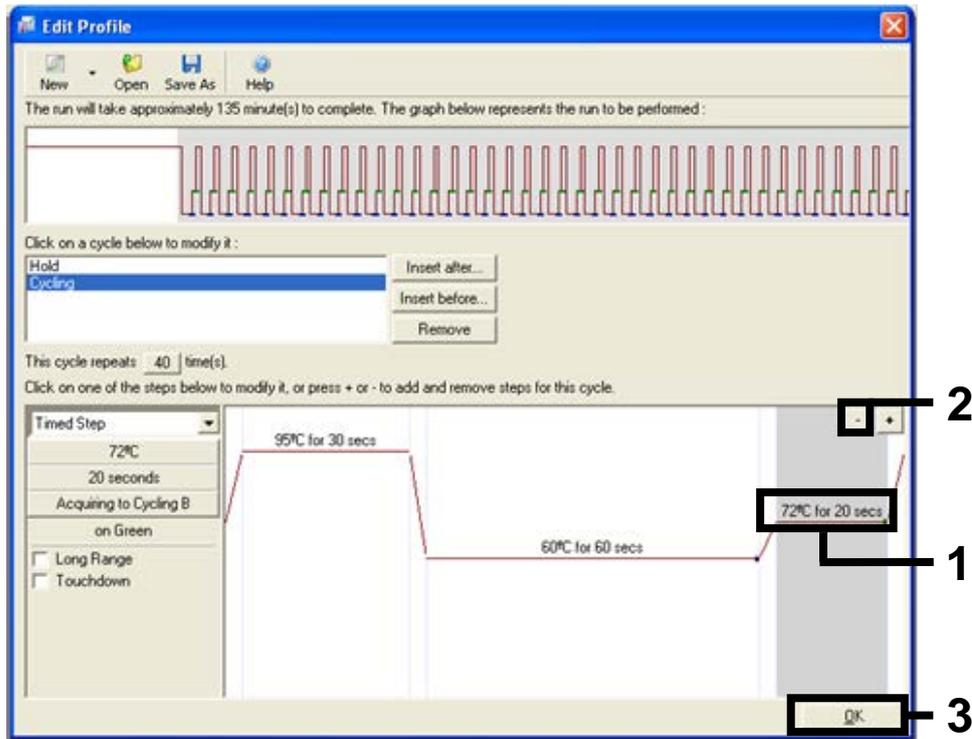

Figure 28. Removal of the extension step (1 = Third step; 2 = Delete button; 3 = “OK” button).
11. Highlight the third step and delete by clicking the “-” button. Click “OK” (Figure 28).